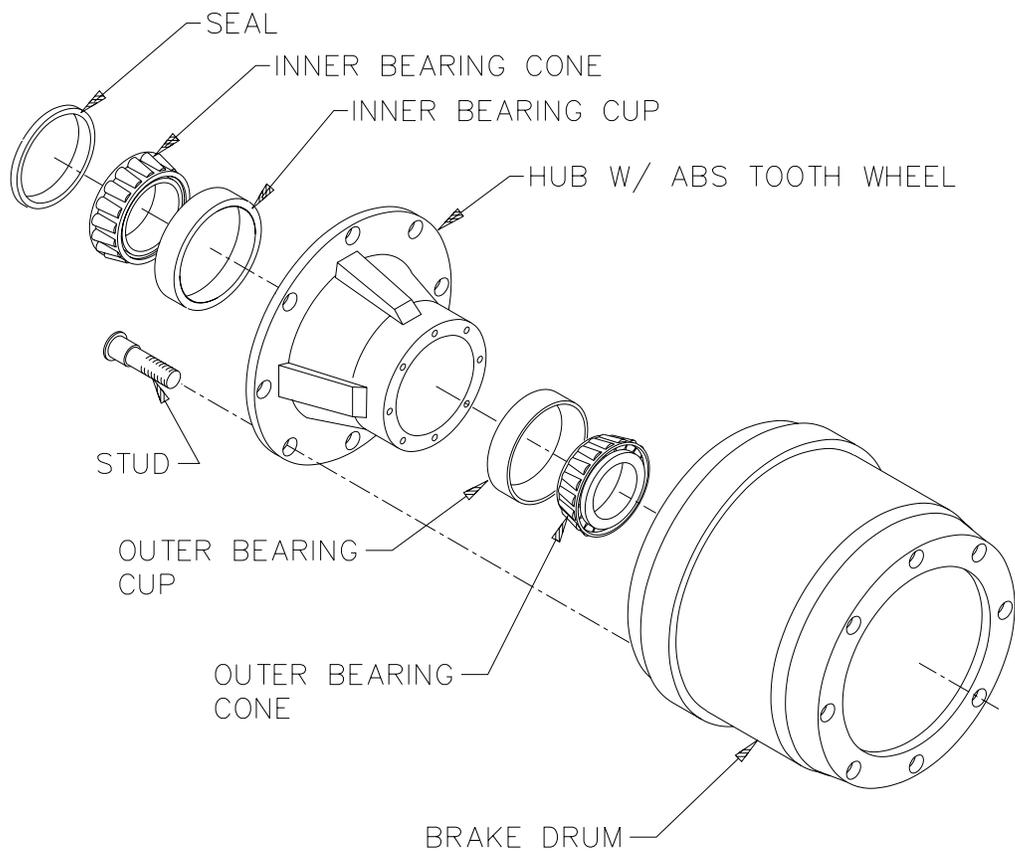

Figure 4-12 Outboard Mount Hub and Drum
4-9.4 Replace the hub and drum as follows (**See Figure 4-12**):
- a. For outboard mount hub and drum remove the brake drum (**See Figure 4-12**). It may be necessary to release the slack adjuster. For inboard mount (**See Figure 4-**) remove drum after hub.
- r. For outboard mounted brake drum (**See Figure 4-12**) place the drum over the hub and brake shoes being careful not to damage the threads on the studs. Make sure the drum seats flat against the hub flange and mates properly with the hub pilot. There should be no interference between the brake drum pilot chamfer and the corner radius on the hub. If interference exists, the hub will not be able to function properly.